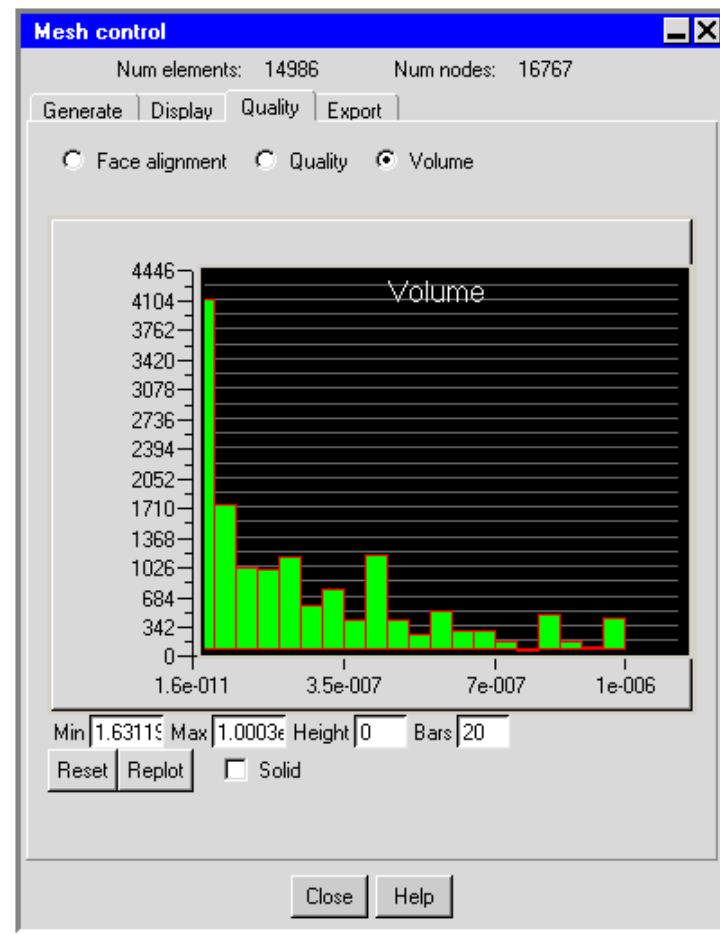

Figure 26.10.4: The Volume Histogram in the Mesh control Panel
3. Select the **Volume** option. **Airpak** will show a histogram of the element volume, as shown in Figure 26.10.4.